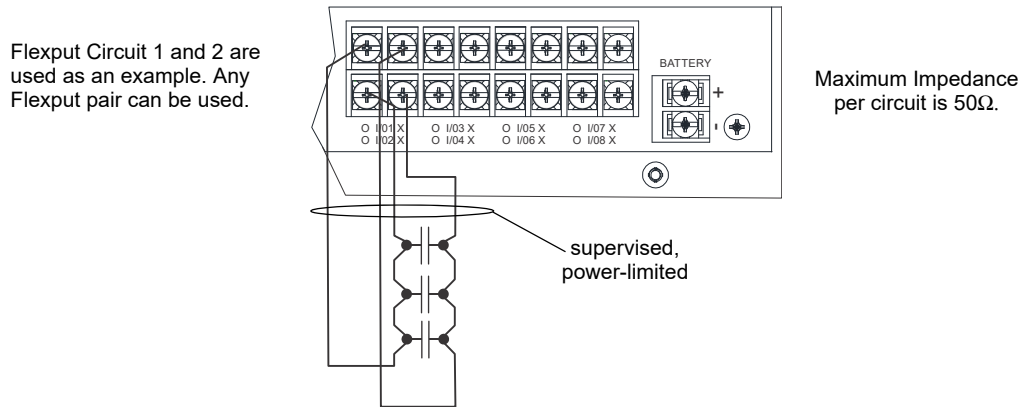

Figure 4.47 Class A Initiating Switches
1. Wire the Class A switch as shown in Figure 4.47.
NOTE: In programming any point that uses multiple Flexput circuits, the lowest Flexput circuit number is used to refer to the circuit pair. For example, Figure 4.47 uses both Flexput circuit 1 and 2, so in programming it would be referred to as point 1.